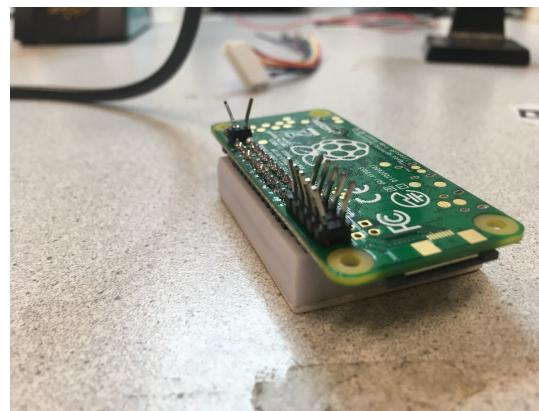

Figure 3.16: Raspberry Pi pins bend
Step 3 Once you have replicated the Pi of Figure 3.14, you can optionally slightly ($\pm 5^\circ$) bend the downwards facing pins a little outward, see Figure 3.16.